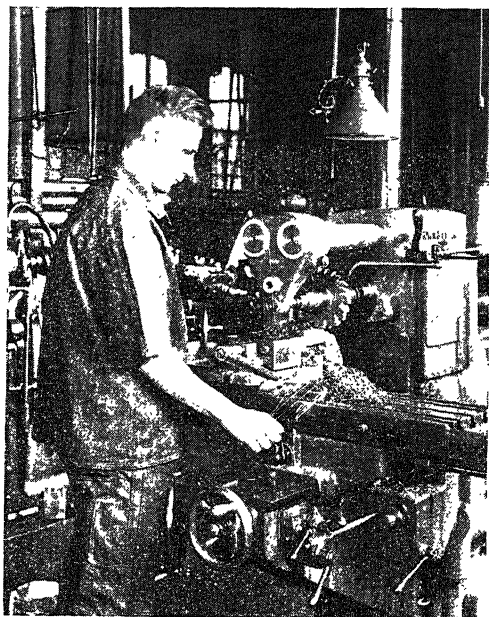

FIG. 6.—A side milling operation in a column and knee type plain milling machine. (Courtesy of Brown & Sharpe Manufacturing Company.)
*The Milling Machine.*—The milling machine (Fig. 6) is a machine tool in which metal is removed by means of a revolv-